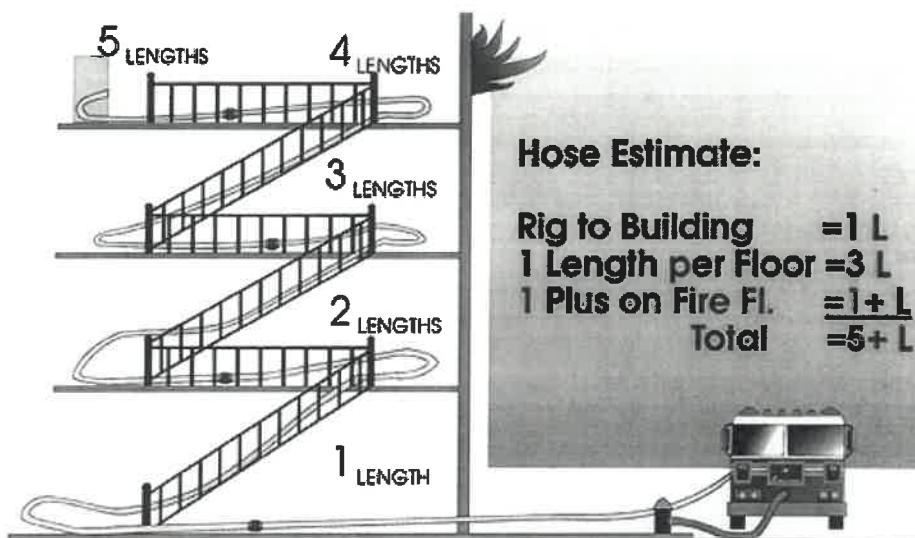

Fig. 1
- Example: 5 story multi-dwelling, fire on the 4th floor would require 5 lengths (4+1=5). (*see Fig.1*)